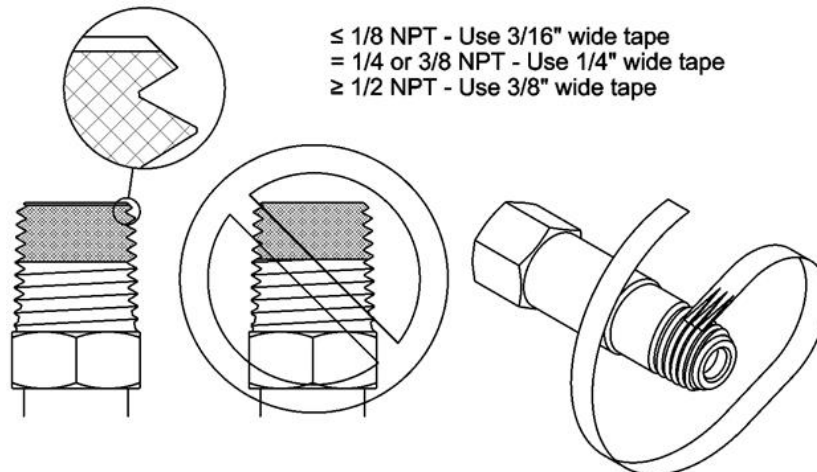

Figure 6 - Pictorial View of Tape Seal
- c. Be sure that all fittings are secure and leak tight. PTFE tape must be used on pipe threads. See Figure 6.
Use an open-end wrench, not a pipe wrench, to install accessories to the AutoSwitch system. **ALWAYS hold the bulkhead fitting with a wrench when installing the accessories to the AutoSwitch system. Do not allow the bulkhead fitting to turn; otherwise, connections inside the box may be loosened.** NPT connections require the use of PTFE tape on the threads to make a gas tight seal (see Figure 6). CONCOA uses PTFE tape on all of its NPT connections. Follow these rules when using PTFE tape.
- Start the PTFE tape on the first thread leaving a slight section of the chamfer exposed as shown in Fig. 6. Make sure the tape does not overlap the end of the fitting.